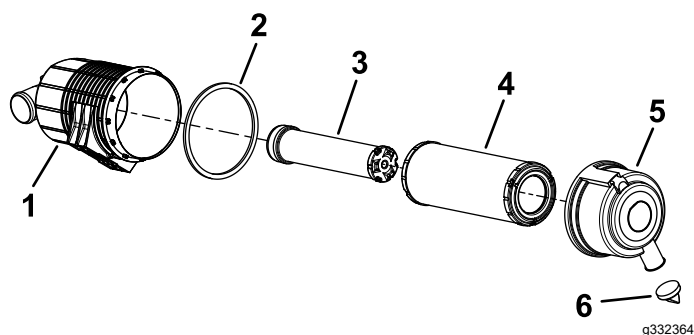

Figure 39
5. Service the air-cleaner filter and safety element when alerted (Figure 39).